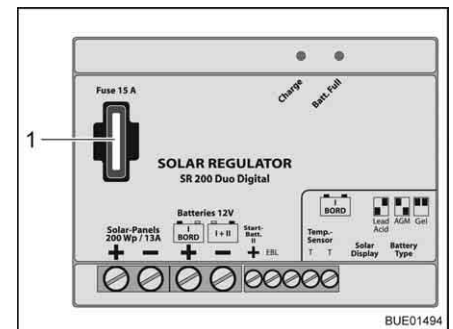

Fig. 171 Solar charge regulator fuse 200 W
- Replace flat fuse 15 A/blue (Fig. 171,1).